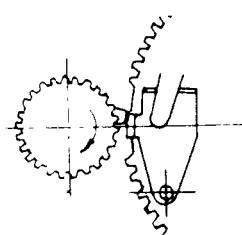

Fig. 2
3. The engagement is very easy to move as it simply rests on the lower trip. On the music section of the record groove the engagement moves so slightly that it is returned by the tip of the projection. Consequently, the turntable spindle gear does not engage with the main gear and thus does not trigger the auto-return operation as shown in Fig. 2.